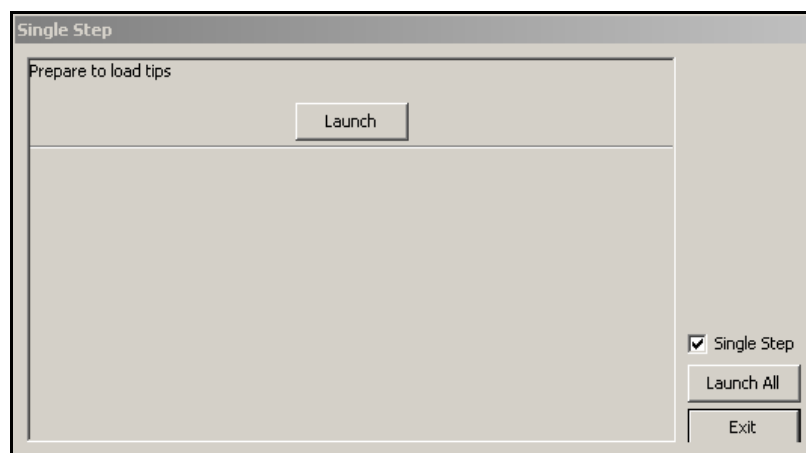

Figure 2-20. Single Step with specific operations displayed
2. Choose **Execution>Run**. Single Step with specific operations displayed appears (Figure 2-20). If you have other ALPs configured on your deck, the initialization process for them appears in Single Step.